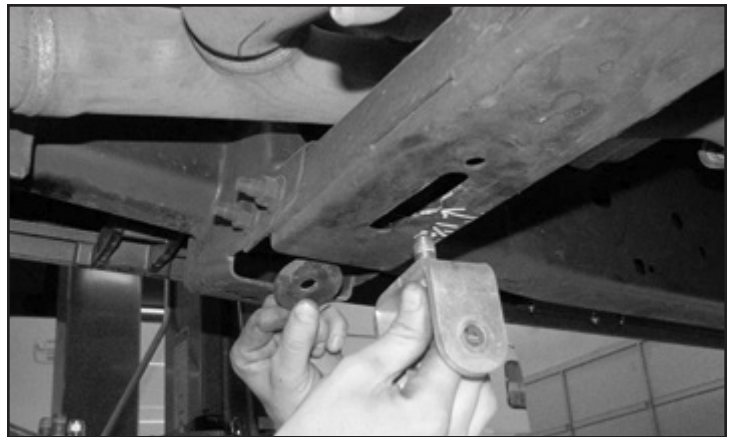

FIGURE 40 - STEP 41
41. Locate the Fabtech impact tube mounts (FT30064BK) the two large washers (FT83159) and the nut tabs (FT90056). Locate the $\frac{1}{2}$ "-13 x 1- $\frac{1}{4}$ " bolt. Use this hardware to install this assembly. The impact tube bracket will mount on the bottom side of the crossmember. The washer will go inside the crossmember over the slot. The nut tab will mount on top of the washer inside the crossmember holding the assembly together. Leave the assembly loose until the impact tube is installed. **SEE FIGURE 40**